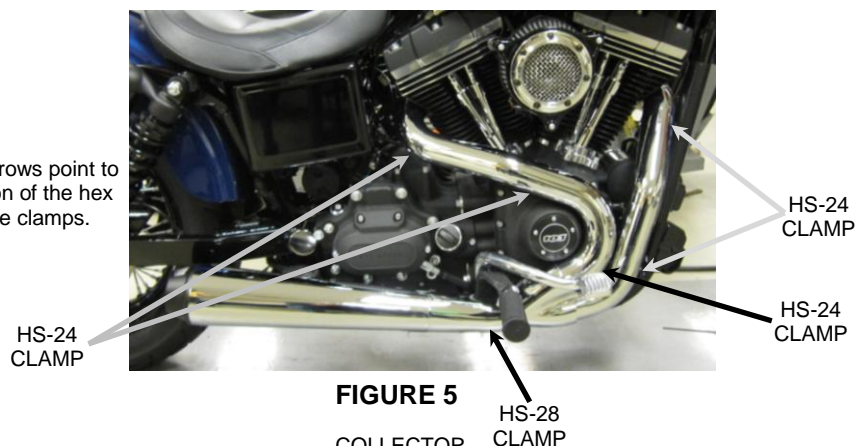

FIGURE 5
16. Unscrew the small **HS-24** clamps and feed the tail end of the clamp through the clips on the inside of the heatshields. See **FIGURE 5** for proper positioning of the clamps on the heatshields. (NOTE: The arrows point to the positioning of the hex head of the clamps. The hex head of the clamps should be accessible for tightening but not visible when the heatshields are mounted to the pipes.)
17. Unscrew the larger **HS-28** clamp and insert the tail end through the clip on the inside of the collector heatshield. See **FIGURE 5** for proper positioning of the clamps on the heatshields. (NOTE: The arrows point to the positioning of the hex head of the clamps.)
18. Install the rear heatshield first. Slide the bottom of the heatshield into position first and then slowly push the top of the heatshield into position. (NOTE: Spread the hose clamps apart slightly to make it easier to slide them over the muffler assembly and headpipes.) Snug the heatshield clamps but do not tighten. See **FIGURE 5**.
19. Install the front heatshield the same way as the rear heat shield. See **FIGURE 5**.
19. Install the collector heatshield over the collector area by first inserting the rear portion over the front of the muffler inlet and then carefully sliding it backward over the muffler body. See **FIGURE 5 & 6**. The front of the collector heatshield will go over the rear portion of the headpipe heatshields. Adjust the heatshield fore and aft on the collector so there is a small and even gap between the rear of the collector heatshield and the front of the muffler body. The muffler may need to be slid forward or backward on the mounting bracket to increase or decrease the size of the gap. Also be sure to rotate the front of the collector heatshield on the collector so that it sits on both the front and rear headpipe heatshields evenly. **NOTE:** The headpipe heatshields may need to be adjusted fore and aft and or rotated on the headpipes to allow the collector heatshield to align properly.